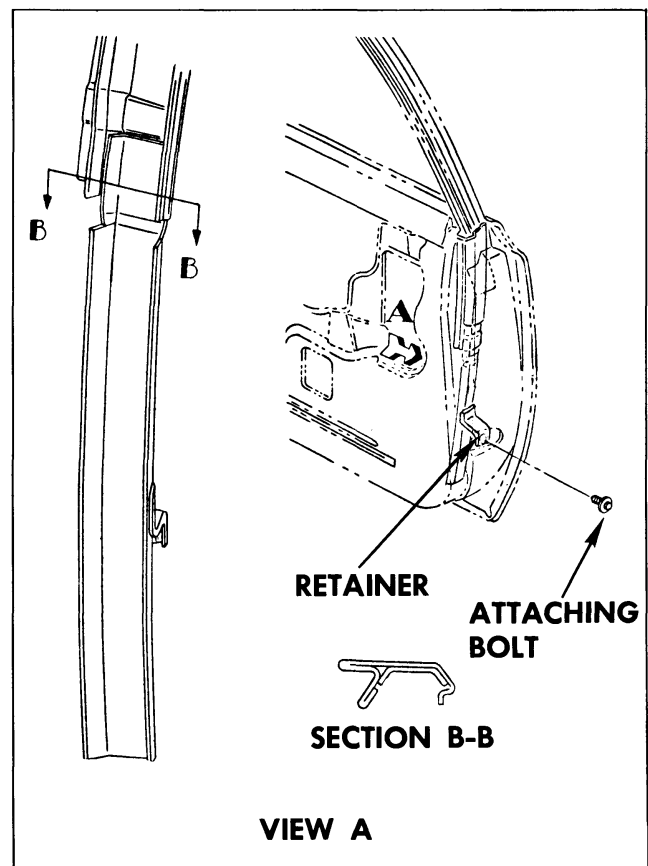

Fig. 12-25 Run Channel Lower Rear Retainer
2. Remove run channel lower rear retainer attaching screw and remove retainer through large access hole. Fig. 12-25 shows retainer retention on 15 and 80 styles, but is typical of all closed styles.
3. Remove glass run channel lower rear retainer and ventilator (Figs. 12-25 and 12-26).